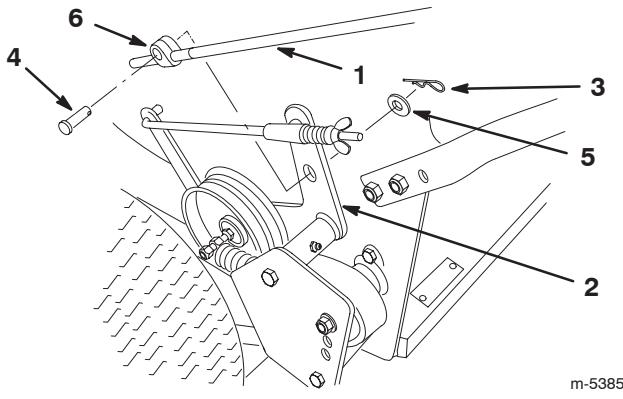

Figure 6
- Thread the rod fittings an equal distance onto each control rod (Fig. 6).
- Install the rod fittings with clevis pins into the holes in the idler brackets (Fig. 6). Secure the rod fittings with washers and hairpin cotters (Fig. 6).
Note: Install each rod fitting so that the clevis pin is above the control rod as shown in Figure 6.